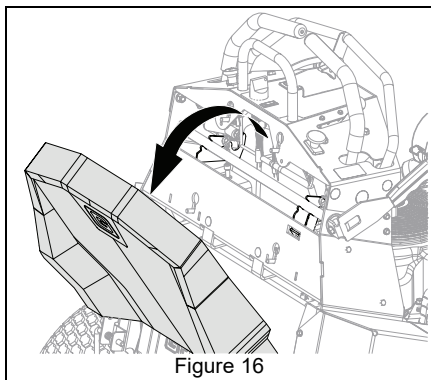

Figure 16
7. Pull access pad upward and then rearward to remove. See Figure 16.